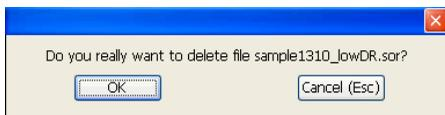

Figure 7.18
7.5.2.3 To remove a file from the memory of the device, press [Delete]. The dialog window then appears with a request to confirm – Figure 7.18.